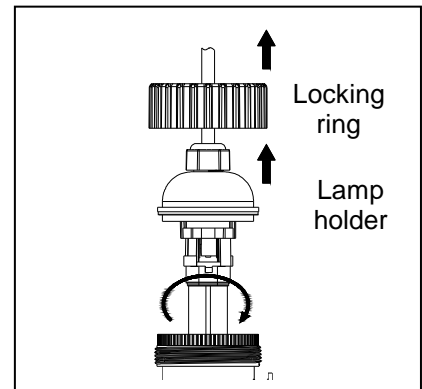

Fig. 16
2. Rotate the locking ring counterclockwise to remove the lamp holder. Fig. 16